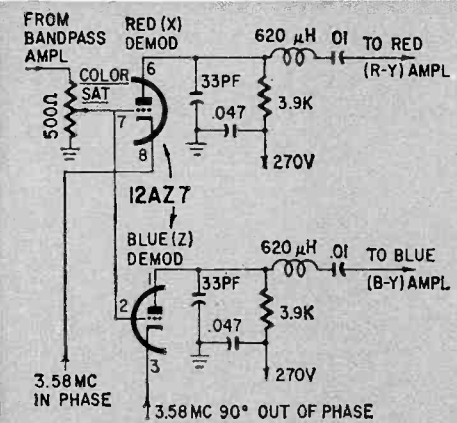

Fig. 5—Color demodulators work in quadrature, keyed by direct and 90°-shifted 3.58-mc voltage.
**5. Color demodulators** (Fig. 5). You'll find these called X and Z, I and Q, R and G, you name it—any combination of letters. They all do the same thing: separate the color information from the video signal. How? Phase detection. A good simile is the quadrature-detector circuit used in sound detectors with the 6DT6 or 6BN6.